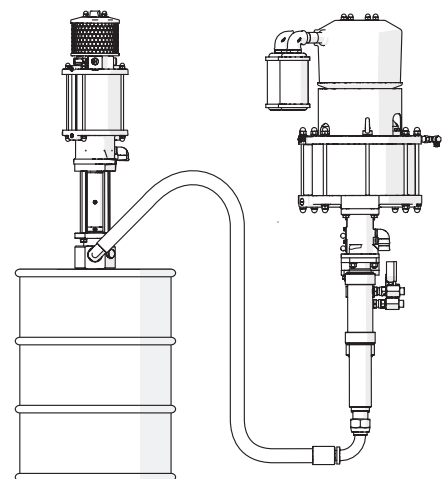

Fig. 37: Material supply with feed pump
- with feed pumps (see Fig. 37),